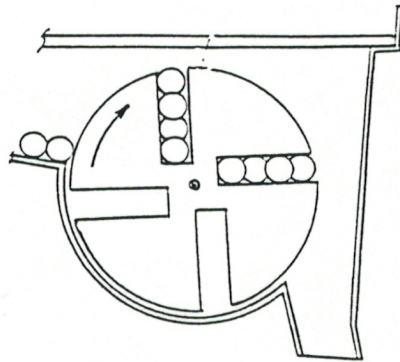
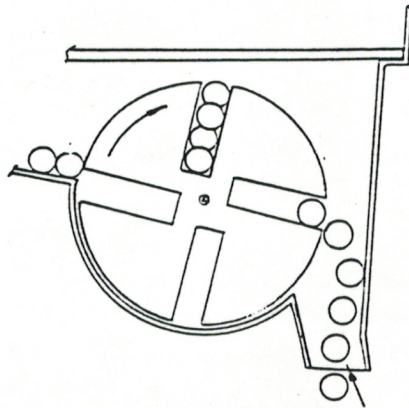

Figure 3 Schematic of drum rotation after a token (or money) is inserted (side view)
Figure 4 Schematic of drum rotation upon dispensing of balls (side view)
When a token is inserted into the token mechanism it trips a microswitch that sends a signal to the timing relay. The timing relay starts, and runs the motor for 1.4 seconds; this is enough time for the stop switch to be released from one of the four drum stopper blocks that are located on the side of the drum; this causes the drum to begin rotating (Figure 3) and the machine to dispense balls (Figure 4). When the stop switch is off the stopper block, it supplies power directly to the motor. The motor continues to run until the stop switch encounters the next stopper block and stops.
3. Measure the distance between the motor end of the bin, and the drum. There should be approximately a 3/4" gap between the drum and the motor end of the bin (see Figure 4). If the drum has shifted, you must adjust it. If not, no further adjustment is necessary. Proceed to step 8.
4. One of the four drum slots has an opening that allows access to the drum-to-shaft set screw (see Figure 4). Use tokens to rotate the drum until you can see the opening.